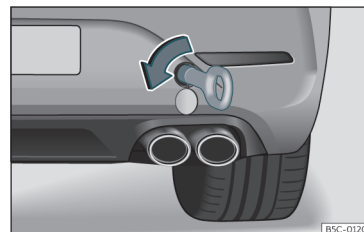

Fig. 46 On the right side of the rear bumper: towline anchorage in position.
- Screw the towing eye in the housing by turning it to the maximum **anticlockwise** »» **Fig. 46** »» ❶. Use a suitable object that can completely and securely tighten the towing eye in its housing.